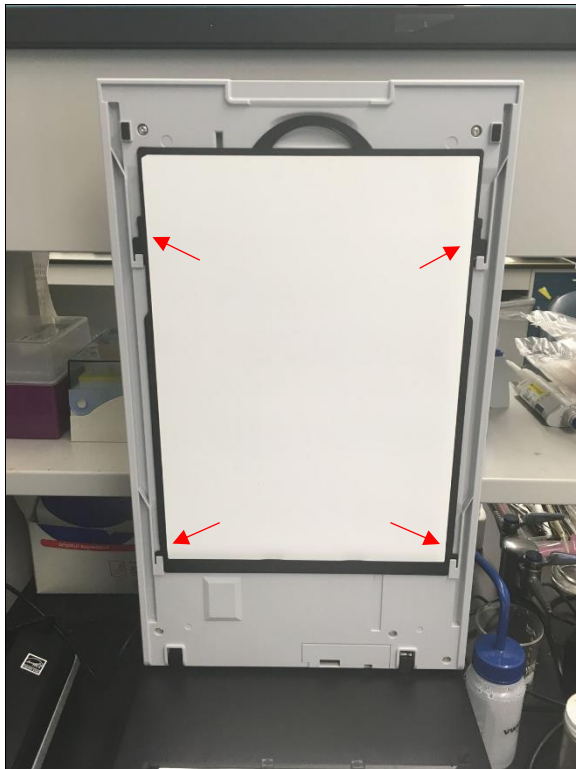

Figure 4. Remove white cover of scanner lid using tabs indicates by red arrows.
7. Open the lid of the Epson flatbed scanner. Remove the scanner cover by releasing it at the clips indicated in Fig. 4. Set it aside for later use.